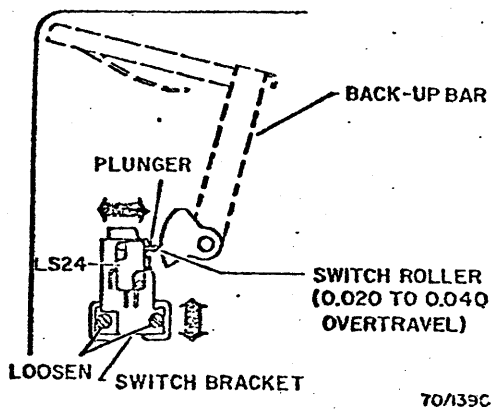

Fig. 3-27. Back-up Bar Interlock Switch
2. Adjust the switch bracket so the switch actuates with 0.020 to 0.040 overtravel (Fig. 3-27).